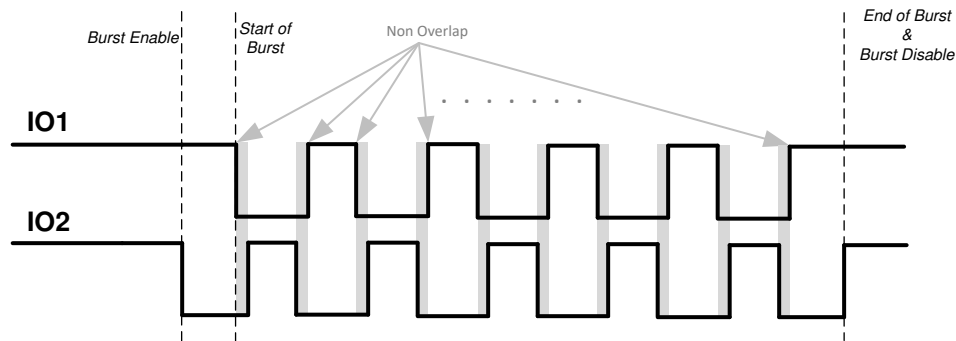

Figure 17. IO_MODE 2 Description
- IO_MODE = 2:** In this mode both IO1 and IO2 are used to control OUTA and OUTB. The burst enable is triggered when either IO1 or IO2 transitions from high to low. Start of burst (OUTA and OUTB changing state) happens only at the next falling edge of IO1. Figure 17 shows the case where a high-to-low transition on IO2 is used to enable the burst. A burst is emulated when IO1 and IO2 are toggled in a non-overlapping sequence. After the start of burst, the state of OUTA and OUTB pins are determined by IO1 and IO2 pins as shown in Table 22. During a burst, if there is a condition where both IO1 and IO2 are high for more than half period of the internal clock f_{INT_CLK} (caused by differential delays due to PCB parasitics or MCU code), an end of burst and burst mode disable will be triggered. Any falling edge just after this condition will be ignored to toggle OUTA and OUTB as it would be considered as a new burst enable signal. A systematic condition of overlap can cause a continuous end of burst trigger such that OUTA and OUTB do not toggle even though IO1 and IO2 are toggling. TI recommends no overlap or minimum non-overlap between the IO1 and IO2 signals when measured at the pins. BURST_PULSE has no effect in this mode.